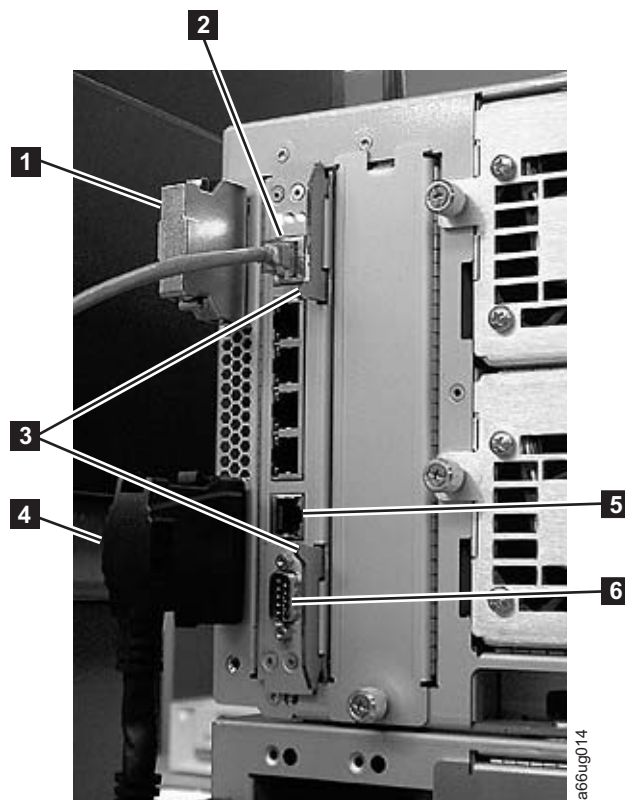

Figure 8-27. Library Control Blade (LCB)
2. On the LCB (Figure 8-27), disconnect the Ethernet cable (**2** in Figure 8-27) by pinching the tab to disengage the cable, and then pull the connector out of the LCB.
Note: Six slots reside below the Ethernet cable. The four topmost slots are reserved for future use. The two bottommost slots are designated as Ethernet (**5** in Figure 8-27) and serial (**6** in Figure 8-27) ports, and are reserved for use by IBM Service Personnel.
- Grasp the pair of latches (**3** in Figure 8-27 on page 8-30) near the top and bottom of the LCB. Simultaneously push the latches to the left, and then pull them out and away from the LCB.